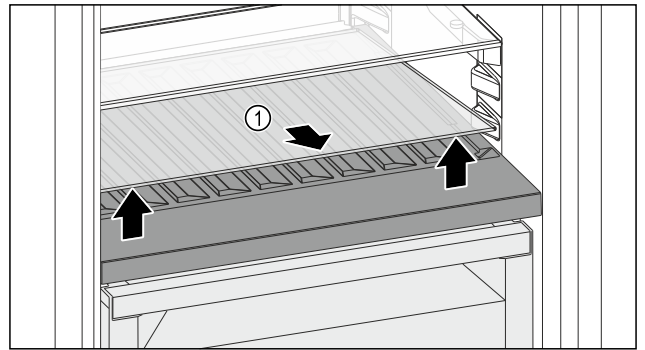

Fig. 144
- Lift the glass shelf Fig. 144 (1) at the front and remove.
- Store the glass shelf Fig. 144 (1) in a safe place outside the appliance.